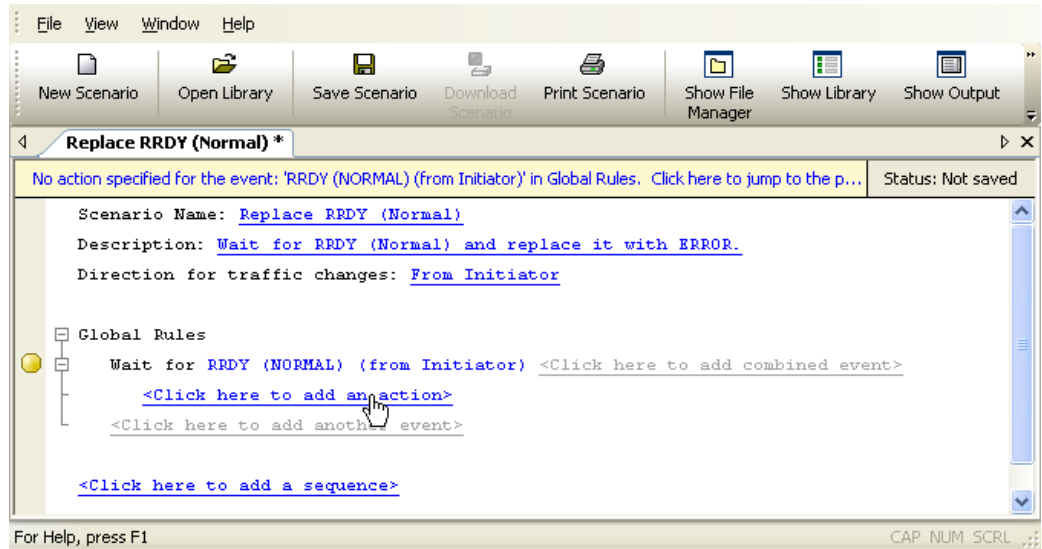

Figure 50 Example 2: Entering the Action
Step 4 In the Global Rules area, click on the prompt to **add an action** (Figure 50).